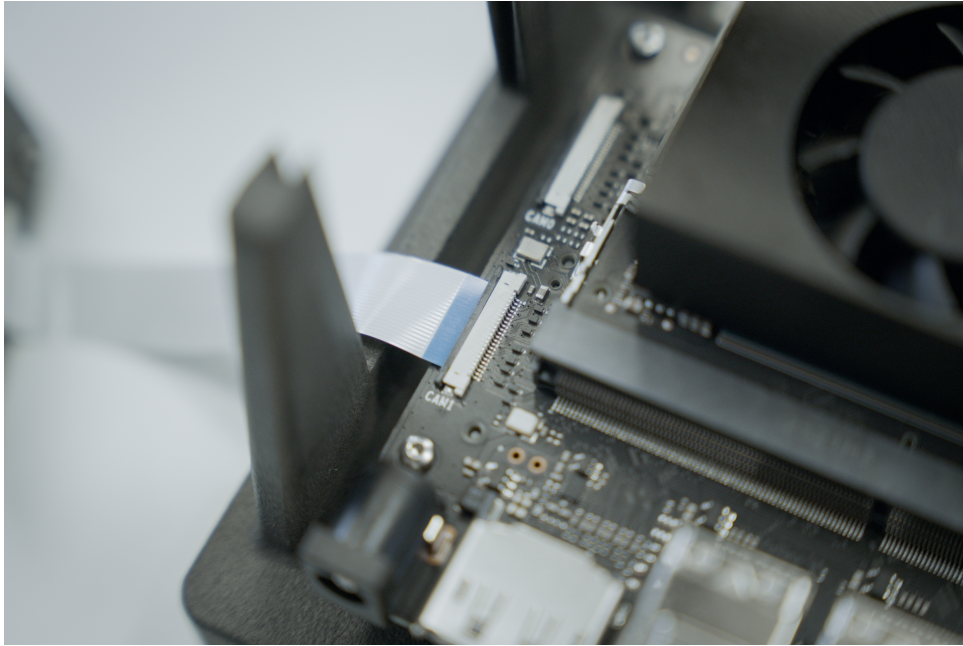

Figure 3.1: Close-up of the camera flat ribbon cable showing the correct position and connector lock
- It's position is shown on the Figure 3.1.